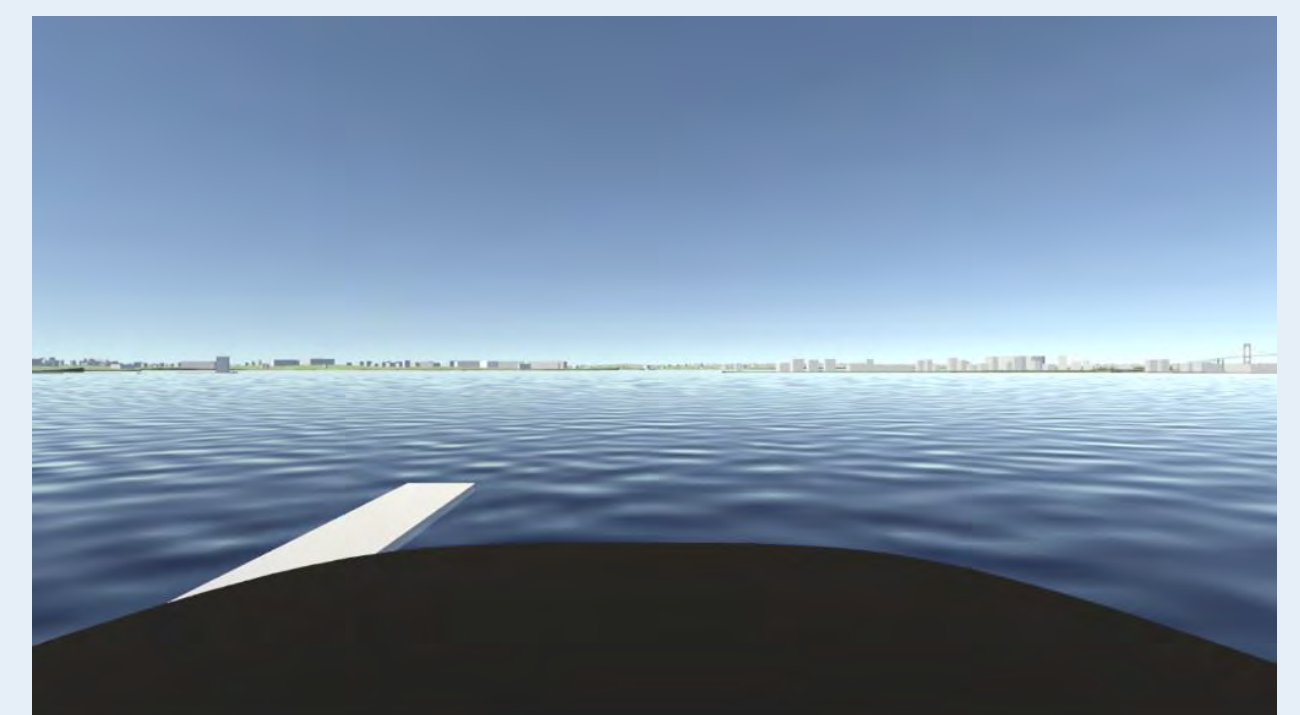

Fig. 2: Unity Project in Editor application (Top: Scene View w/ placeholder boat & water, Bottom: Evaluator GUI with real time map)
- **Secondary Evaluator View:** Separated laptop monitor and VR headset views in software build for operator and evaluator. Evaluator view includes menus for scenario selection on startup and minimap and supporting GUI for scenario customization and execution. Evaluator GUI and 3D game environment run through the same application (**Fig 2**).